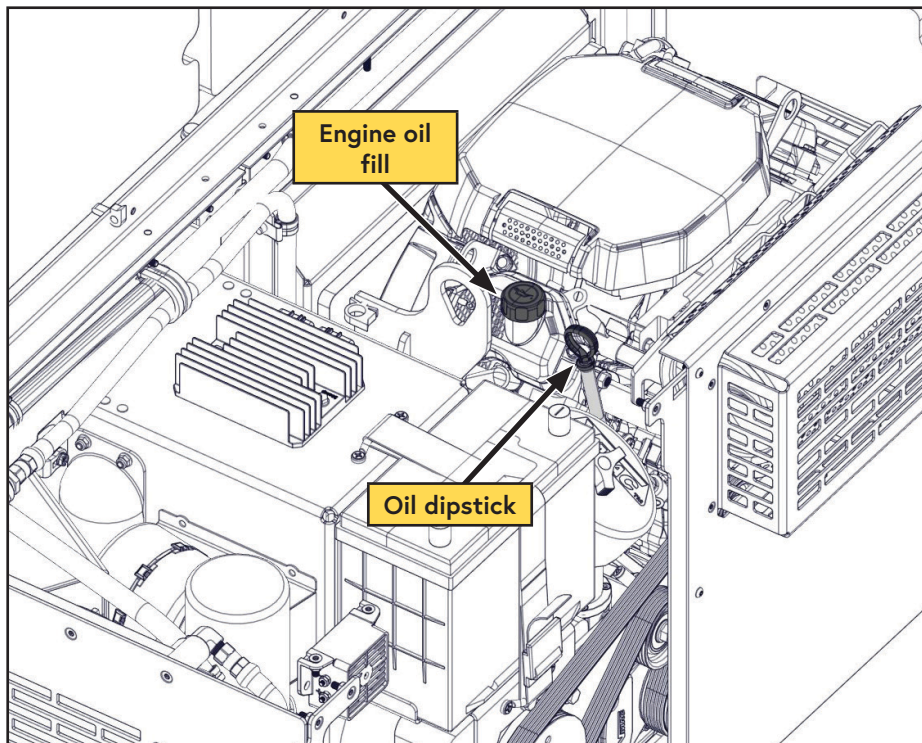

Figure 24 — Inspecting the engine oil
- ☐ The engine oil dipstick is located beside the engine oil fill and can be accessed via the top hatch (Figure 24).